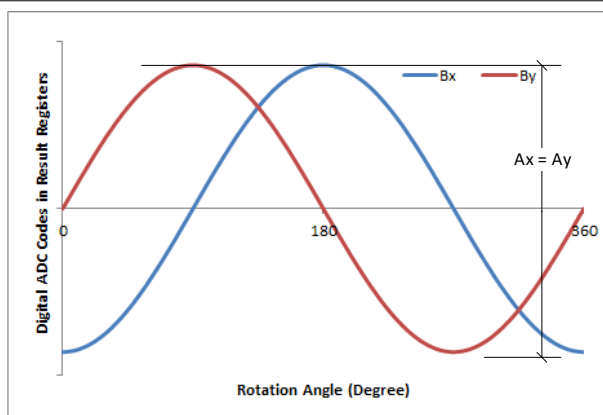
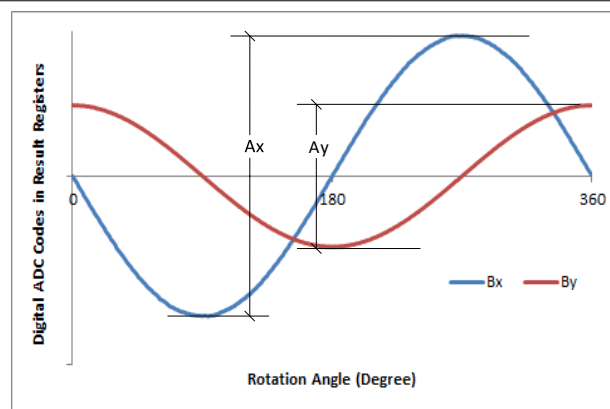

Figure 8-6. X and Y Sensor Data for Full 360 Degree Rotation for On-Axis Measurement
Figure 8-7. X and Y Sensor Data for Full 360 Degree Rotation for Off-Axis Measurement
3. Measure the maximum peak-peak ADC code delta for each axis, Ax and Ay, as shown in Figure 8-6 or Figure 8-7.